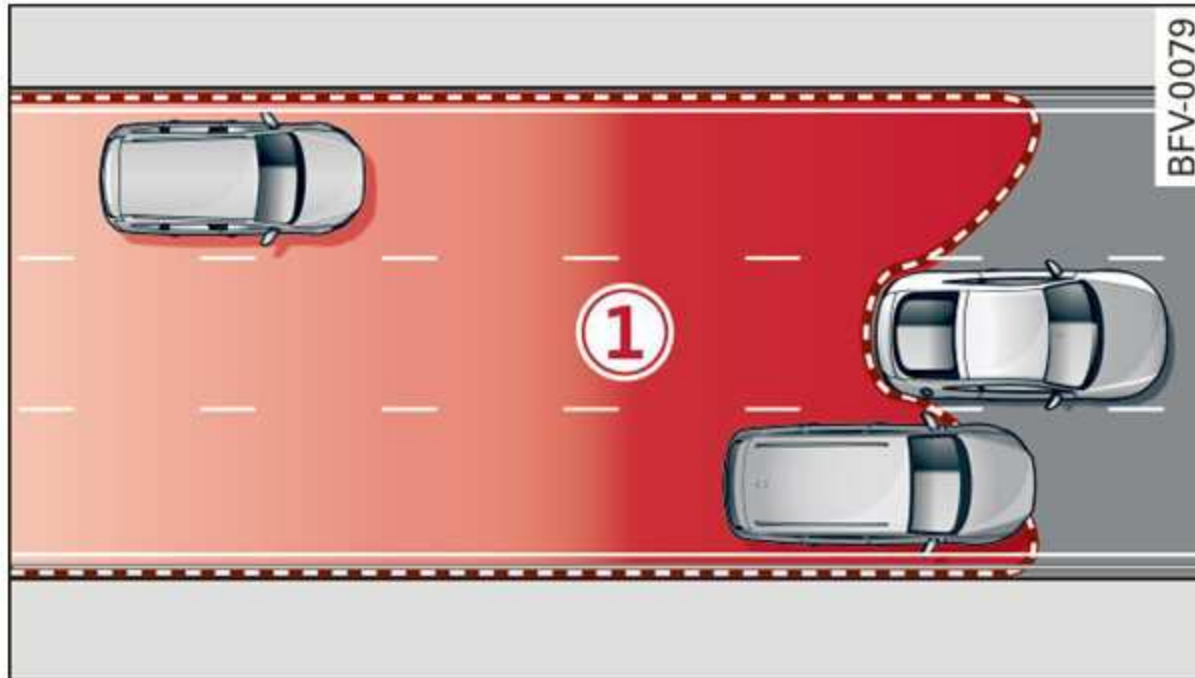
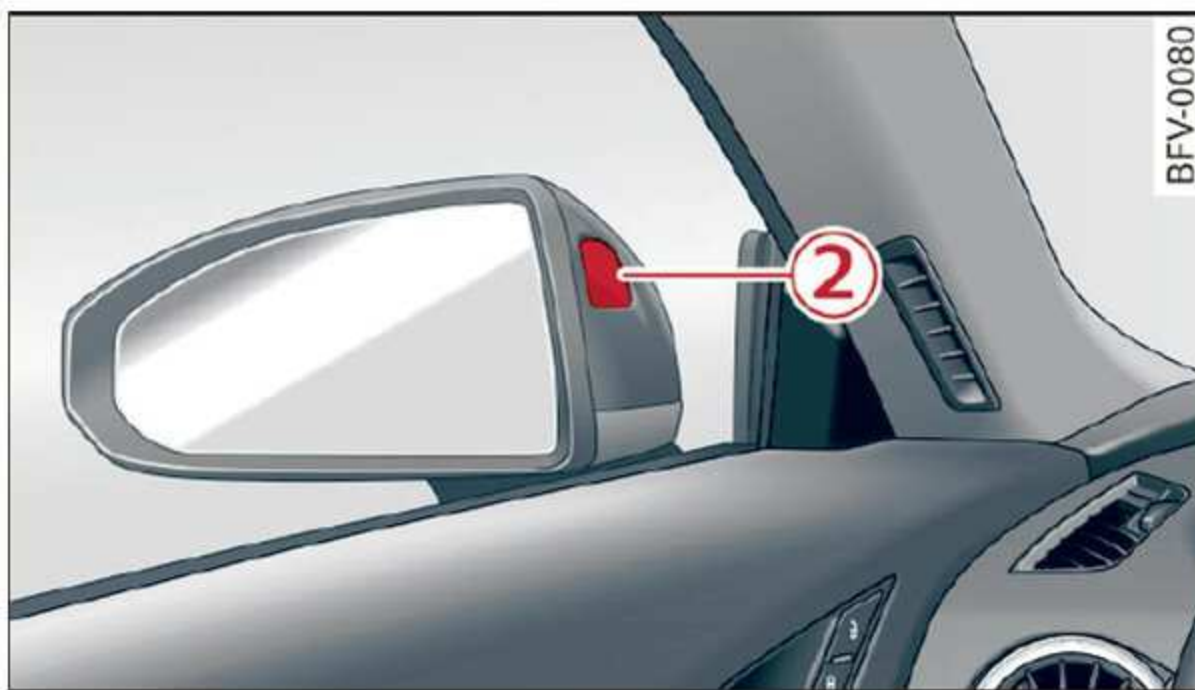

Fig. 78 Sensor detection range
Fig. 79 Display on the exterior mirror
Side assist helps you monitor your blind spot and traffic behind your vehicle. Within the limits of the system, it warns you about vehicles that are coming closer or that are traveling with you within sensor range ① ⇒ fig. 78: if a lane change is classified as critical, the display ② in the exterior mirror ⇒ fig. 79 turns on.